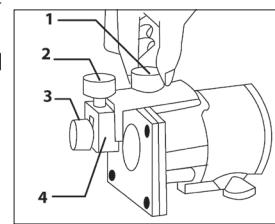

Fig.15
Use the fixing nut (A) to assemble the bearing guide to the base plate. Loose the Fixing nut (B) to adjust the distance between cutting bits and the bearing guide seat. When achieve proper distance, screw the Fixing nut (B) tightly. (see Fig.15)